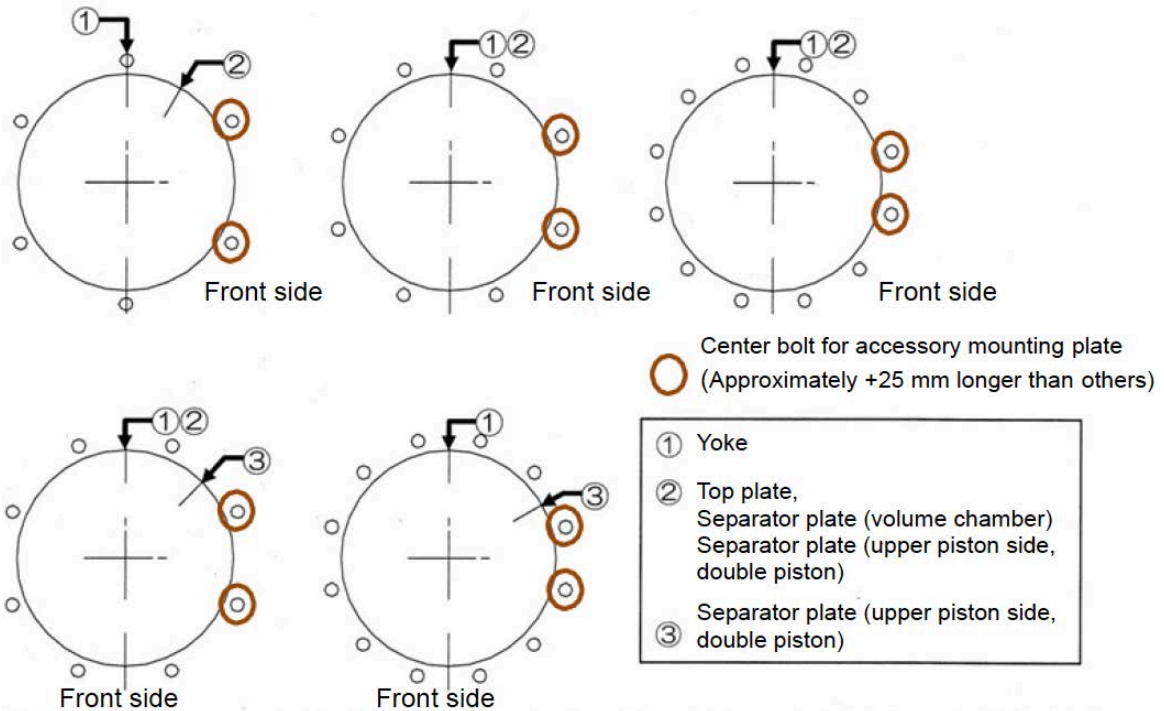

Figure 13 - Center bolt Positioning
7. Replace cylinder tube (14), and top plate (17) with only axial movement. Coat the inner surface of the cylinder tube with silicone grease.
8. Ensure the positions of the air connections are correct. Insert the center bolts into the holes of the top plate and yoke. Mount the spring washers and nuts and tighten them lightly by hand. Mount the spring washers and nuts to the bottom side of the yoke by hand. Ensure that the position of center bolts (Approximately +25 mm longer than others) for the accessory mounting plate, if equipped, complies with Figure 13.